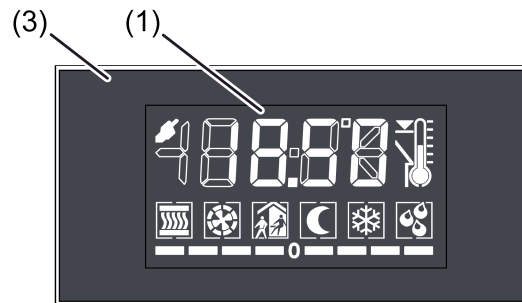

Figure 66: Device display and display control surface
On the front side of the device in the upper area there is a LC display (1) with switchable backlighting (figure 66). On the display, icons signal various operating states of the integrated room temperature controller or the controller extension. In addition, up to four pieces of display information (time, actual temperature, setpoint temperature, outdoor temperature) can be shown on the display either alternating over time or controlled by pressing a button on the device. The display is surrounded by the transparent display control surface (3). The function of this surface can also be configured in the ETS to any desired push-button sensor function. Alternatively the room temperature controller can be operated.